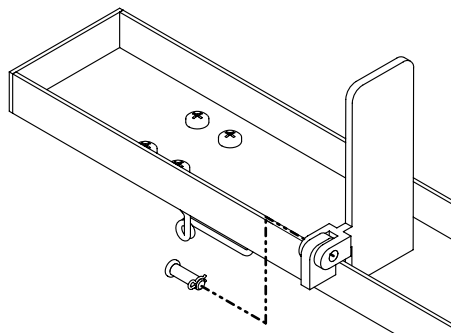

Figure 2 - Assembly of Stopping Plate to Wheel Track
2. Remove Hairpin Clip and Clevis Pin from Stopping Plate, and attach Stopping Plate to Wheel Track (see figure 2).